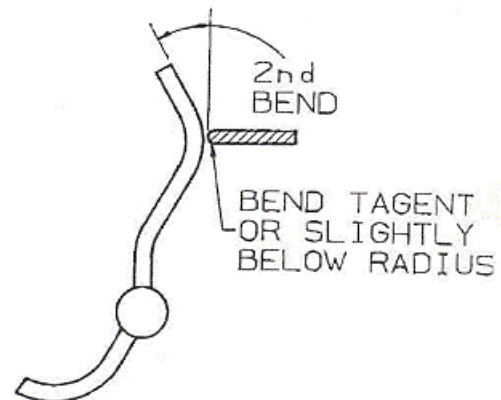

Figure 3-3. S&K pin adjustment if reading is low at 60 mmHg.
26. Remove the test pointer and test dial. Position the calibration tool over the adjusting pin and push it down to the cross shaft. Lift the tool approximately 1/16 inch and bend the pin approximately 15 degrees. See Figure 3-3. While maintaining this position, lift the tool